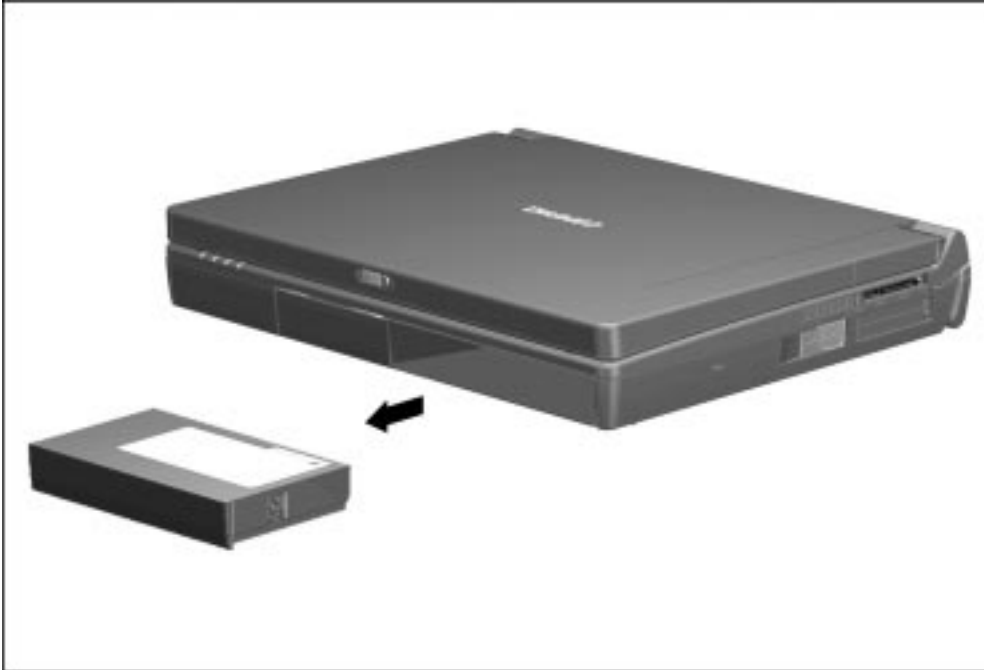

Figure 5-11. *Removing a Battery Pack from the MultiBay*
6. Pull the battery pack out of the MultiBay (Figure 5-11).